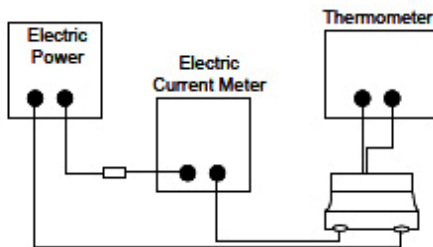

Fig.5.3.3-1
d. Definition of Rated Current ( $I_r$ ):  $I_r$  is direct electric current as chip surface temperature rose just  $20^{\circ}\text{C}$  against chip initial surface temperature ( $T_a$ ) (see Fig. 5.3.3-2).